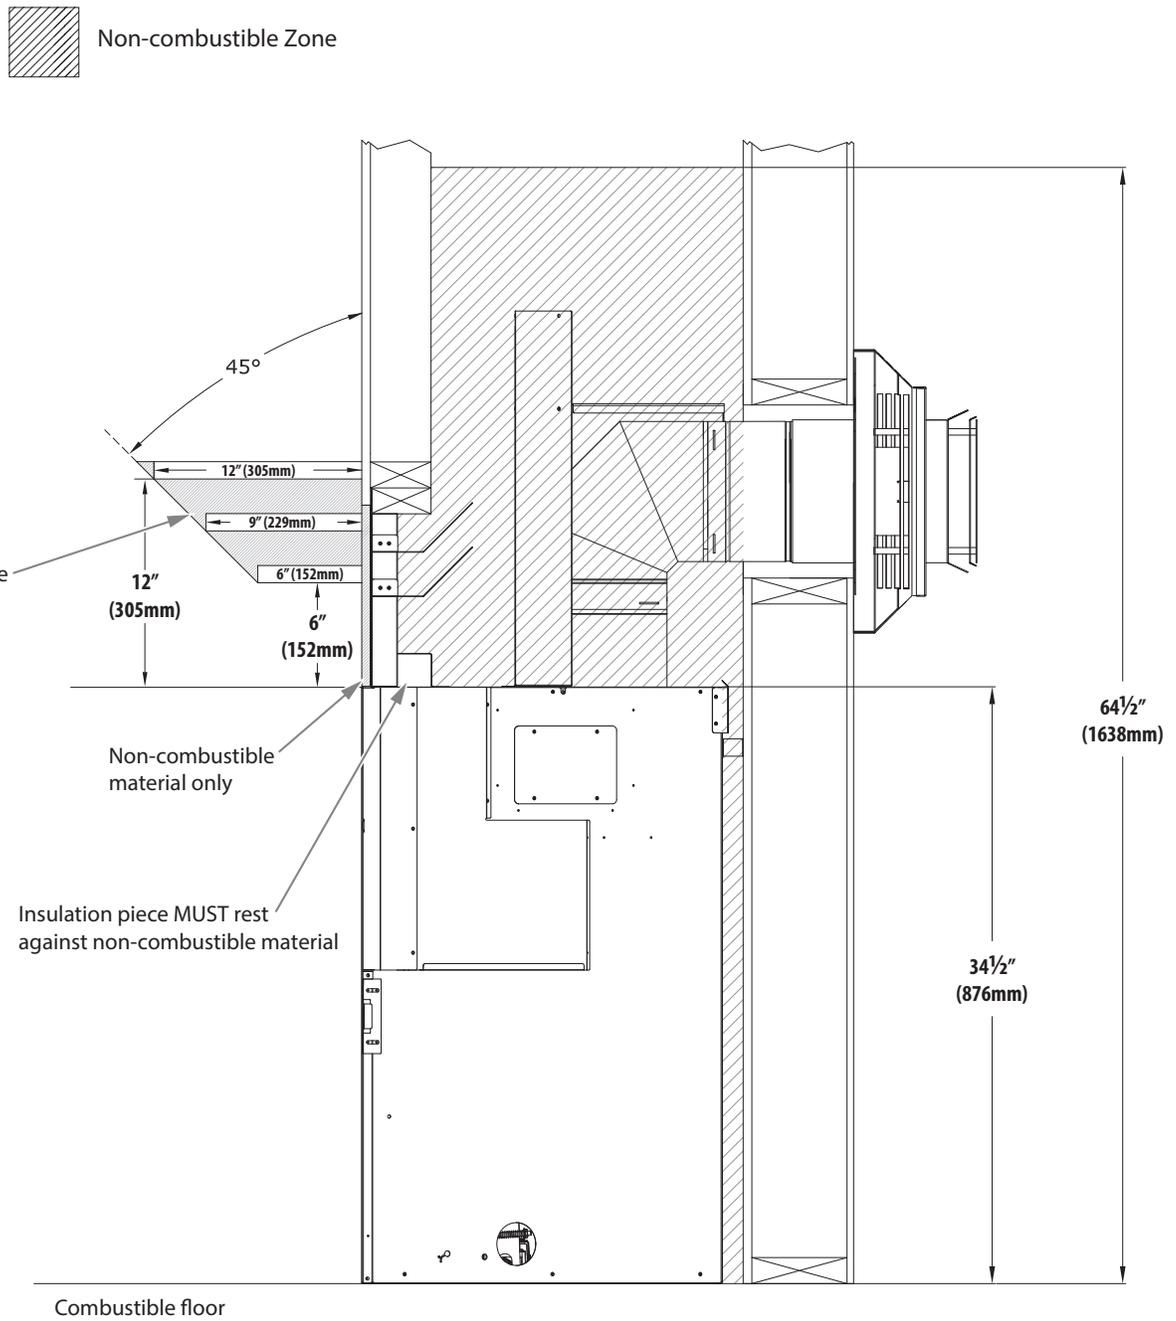

FIGURE 4.2 Non-Combustible Mantel Requirements
- **Non-combustible Mantel Projections** - Minimum Vertical and Maximum Horizontal: A minimum vertical clearance of 6" (152mm) above the top of the appliance to a maximum 6" (152mm) depth of a non-combustible mantel. Follow projection 1" (25mm) up for every 1" (25mm) deeper. See **FIGURE 4.2** on page 24.